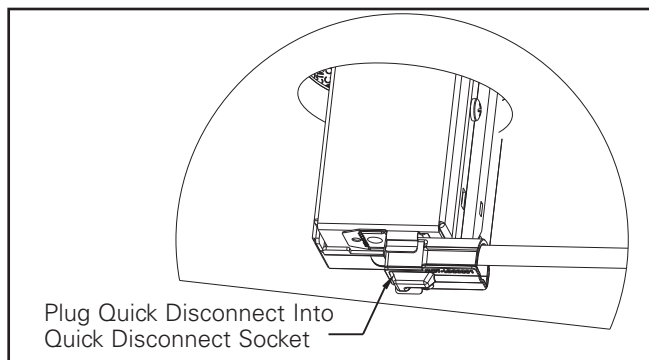

Figure 2
4. Plug LED Module quick disconnect into driver slide quick disconnect socket (see figure 2).